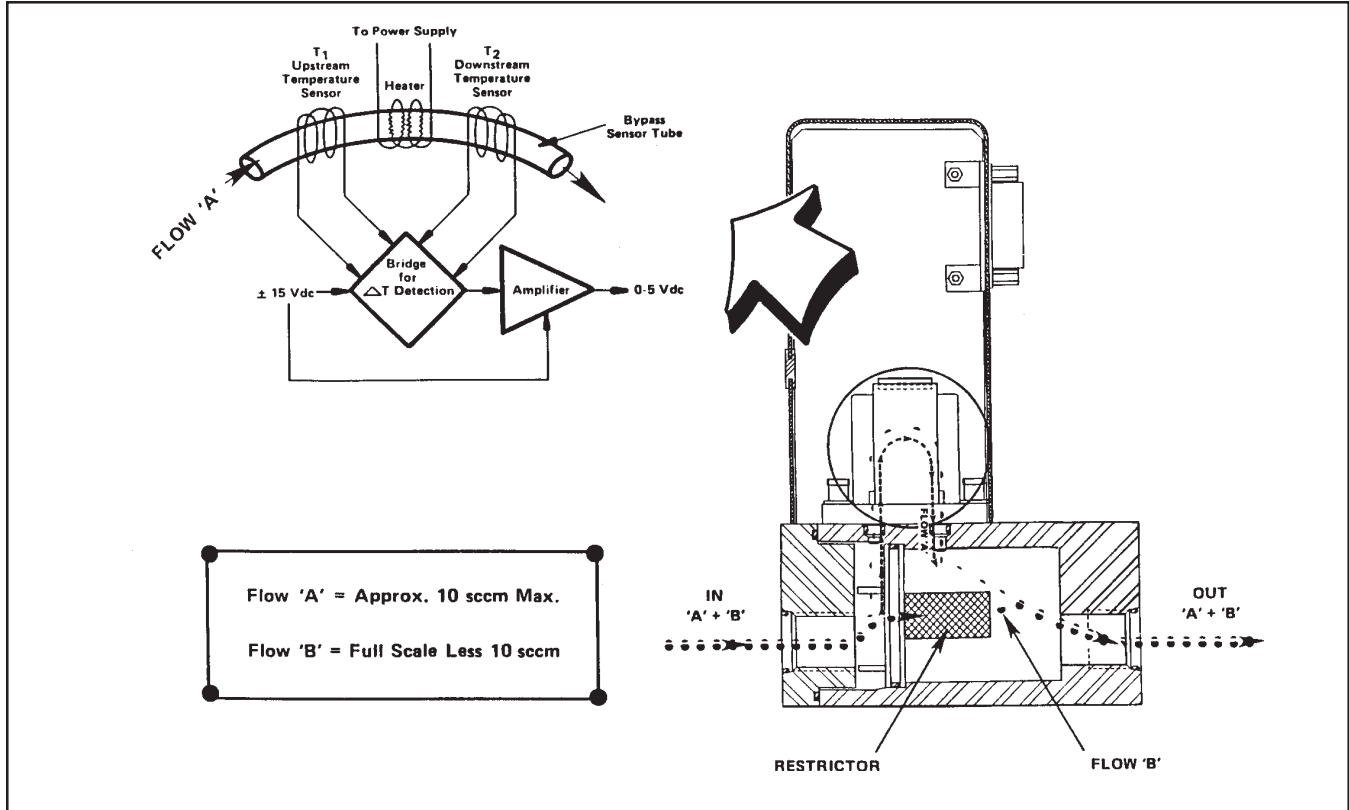

Figure 3-1 Flow Sensor Operational Diagram
A precision power supply provides a constant power heat input (P) at the heater which is located at the midpoint of the sensor tube. (Refer to Figure 3-1) At zero or no flow conditions, the heat reaching each temperature sensor (one upstream and one downstream of the heater) is equal. Therefore, the temperatures T1 and T2 are equal. When gas flows through the tube, the upstream sensor is cooled and the downstream sensor is heated, producing a temperature difference. The temperature difference T2-T1 is directly proportional to the gas mass flow.
The flow restrictor shown in Figure 3-1 performs a ranging function similar to a shunt resistor in an electrical ammeter. The restrictor provides a pressure drop that is linear with flow rate. The sensor tube has the same linear pressure drop/flow relationship. The ratio of the restrictor flow to the sensor tube flow remains constant over the range of the meter. Different restrictors have different pressure drops and produce meters with different full scale flow rates. The span adjustment in the electronics affects the fine adjustment of the controller's full scale flow.